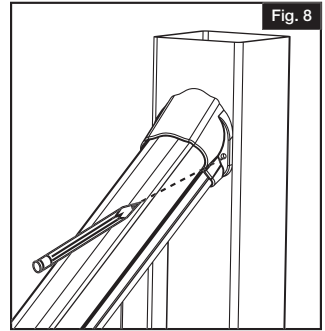
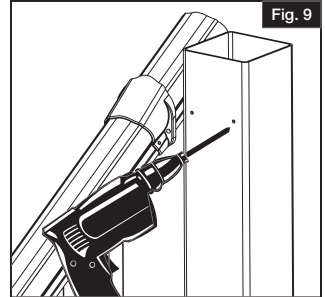

Fig. 8
Fig. 9
- b. Install the #10 x 2½" square drive screws (Fig. 8). Looking down from above, check to ensure screws penetrate the wood post (or plastic spacer of post install kit) (Fig. 9).
Mark all bracket holes (Fig. 8). Pre-drill all bracket holes with $\frac{1}{8}$ " drill bit (Fig. 9).